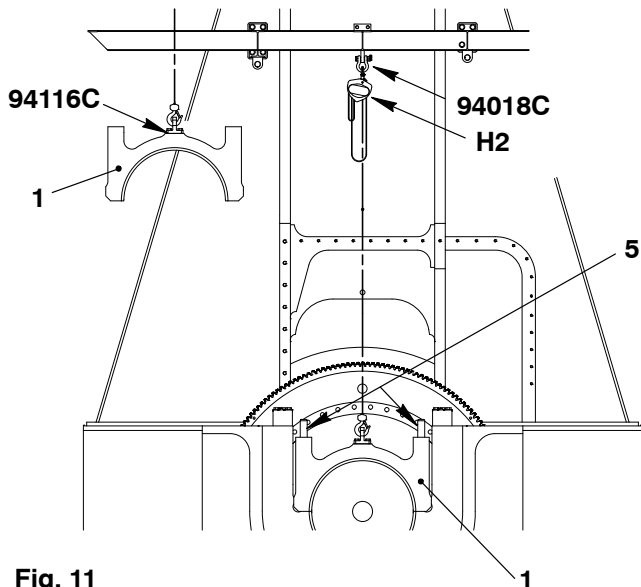

Fig. 11
- 4) Loosen the elastic studs (5, Fig. 11) and remove their nuts, refer to 1132-1.
- 5) Attach the lug (94116C) to the main bearing cover (1).
- 7) Attach the chain block (H2) to the shackle (94018C) and the bearing cover (1).
- 8) Operate the chain block (H2) to lift the bearing cover (1).
- 9) Attach the engine room crane to the bearing cover (1).
- 11) Operate the engine room crane to move the bearing cover (1) to an applicable area.